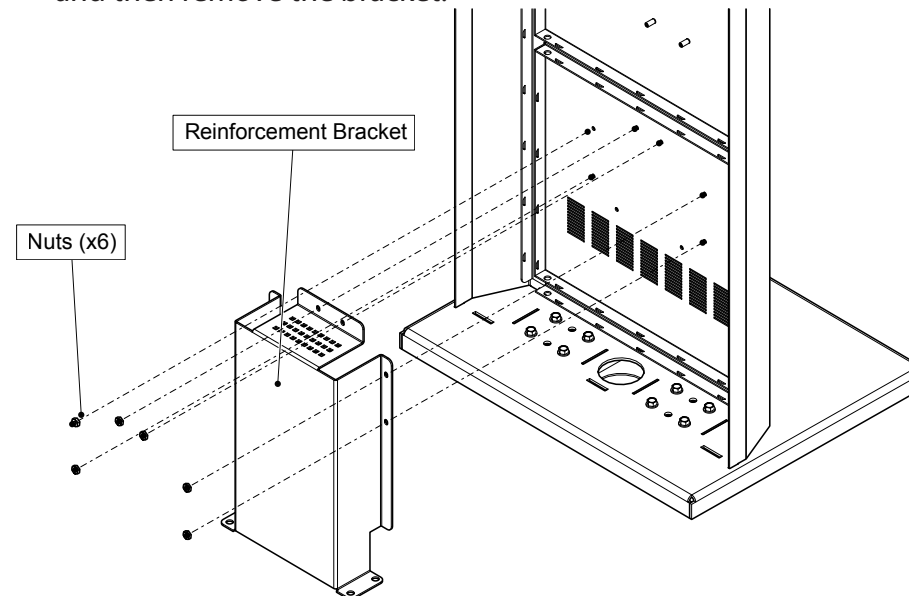

Figure 4: Reinforcement bracket
4. Remove the 6 nuts on the reinforcement bracket, as shown in Figure 4, and then remove the bracket.
3. Position the reinforcement bracket over the 6 studs on the inside of the Kiosk, and screw the 6 nuts on to the studs as shown in Figure 4.